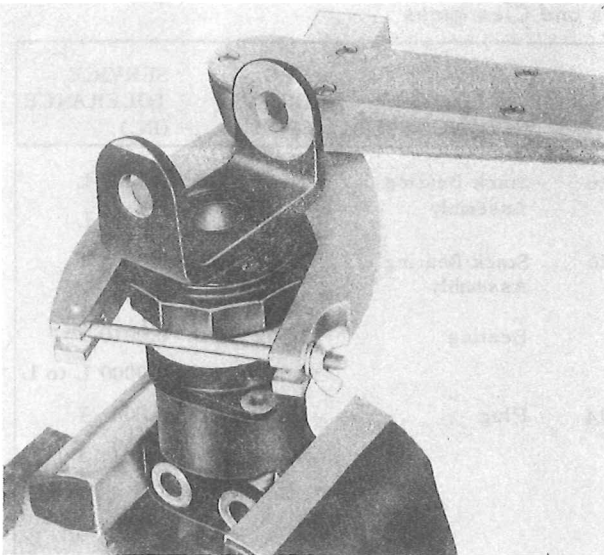

Figure 6-9. Removing Outer Nut from Sleeve
c. Loosen outer nut (18) with wrench, part No. S1670-10451, or crowfoot attachment, part No. S1670-10334. (See figure 6-9.)